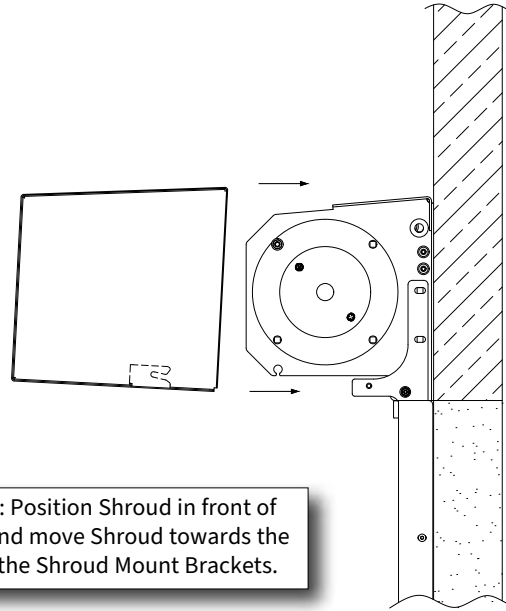

Figure 35: Position Shroud in front of Header and move Shroud towards the wall and the Shroud Mount Brackets.
5. Position Shroud in front of header and move horizontally towards header & wall. (Figure 35)